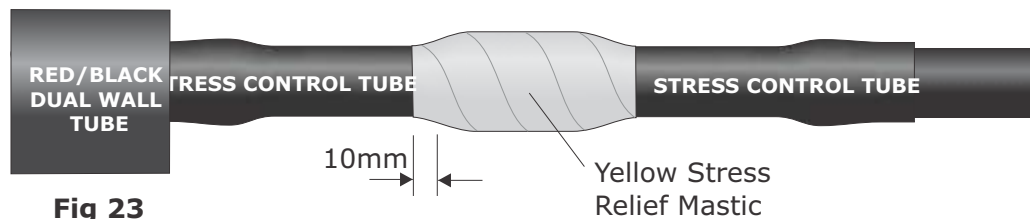

Fig 23
32. Stretch and apply the yellow stress relief mastic over the connector area with a 50% overlap. Extend onto the black stress control tubes by 10mm, as shown in Fig 23.